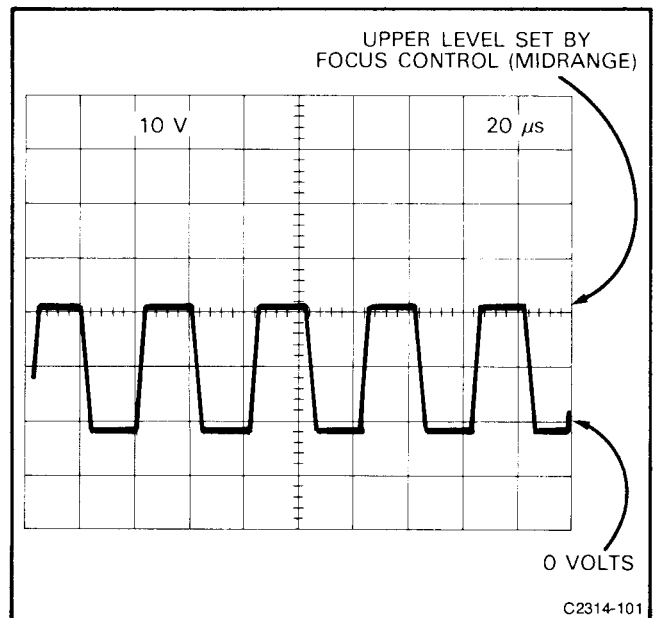

Figure 4-9. Typical waveform at junction of R1814 and CR1816 on the A22 High Voltage Board.
1. Check that the waveform at the junction of R1814 and CR1816 is similar to that shown in Figure 4-9.
- e. If the waveform is not as shown in Figure 4-9 and the dc level is above ground with the FOCUS control at midrange, check diode CR1818 or CR1819 for a short.
- f. If the waveform is not as shown in Figure 4-9, the Focus Grid DC Restorer may not be receiving drive signal from the high voltage transformer. Check resistors A22R1788, A22R1789, A22R1813, and A22R1814.